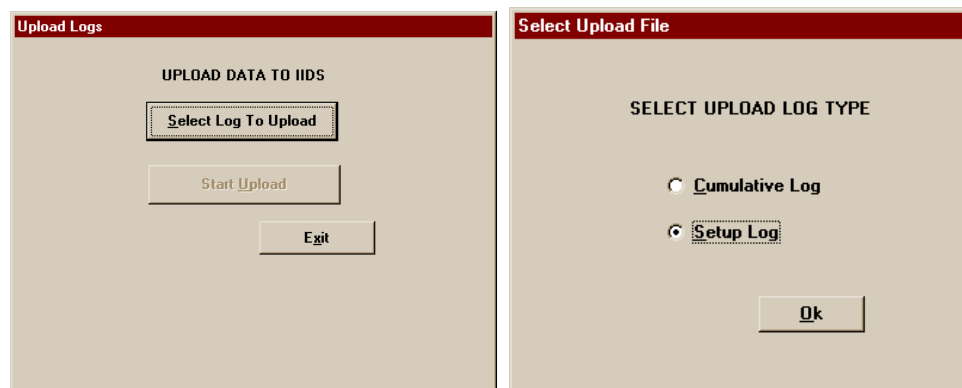

Figure 20. Select Log Type Screens
6. Click on the "**Select Log to Upload**" control button (refer to Figure 20).